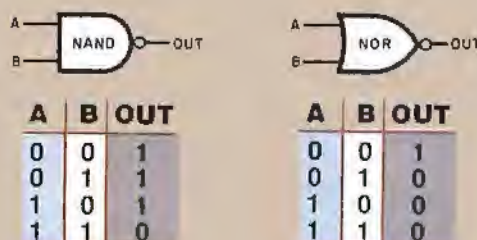

Fig. 2. A NAND gate and a NOR gate, with their respective truth tables below.
**Compound Logic Circuits.** Combining two or more of the basic gates into a compound logic circuit can provide some very important operating features. The two most important compound logic circuits are the AND-NOT and OR-NOT combinations. These are called the NAND and NOR gates and their symbols and truth tables are shown in Fig. 2.